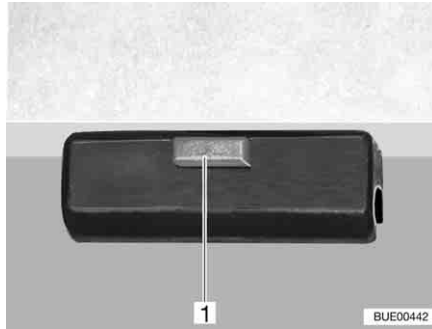

Fig. 95 Lock
- Release the lock (Fig. 95,1) on the table top.